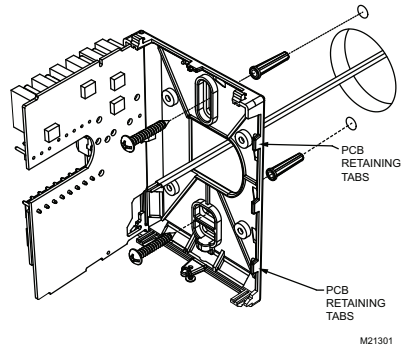

Fig. 3. Location of PCB retaining tabs and mounting screws.
3. Open the Repeater PCB to the left by pressing the PCB retaining tabs. (Fig. 3)
8. Insert screws through the mounting holes on each side of the base and mount base on wall. (Fig. 3)